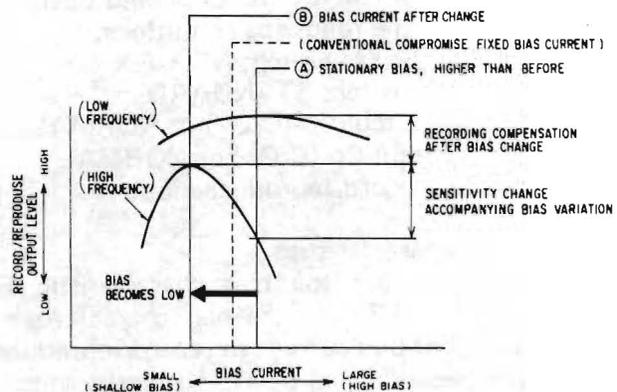
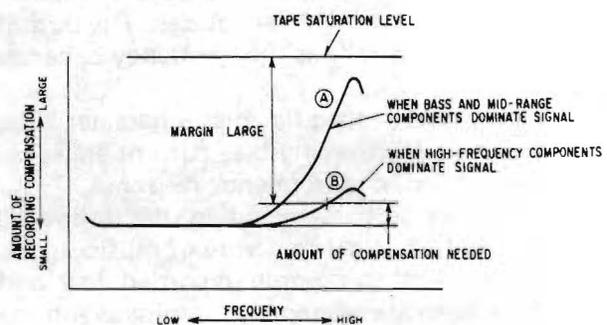

Fig. 3-36 Tape bias characteristic (2)
Fig. 3-37 Recording equalization characteristic (2)
- When bass and mid-range components dominate in the input signal or the overall level of the input signal is low, a fixed high bias is applied. (See **A** in Fig. 3-36.) In this case, frequency response at low frequencies can be improved by selecting a bias more suitable for lower frequency content than the conventional fixed bias.
- When the input signal involves high-level, high-frequency components, bias is decreased instantly depending on the frequency components and level, increasing the sensitivity at high frequencies. (See **B** in Fig. 3-36.)
- When bass and mid-range components dominate the input signal and bias is selected as **A** in Fig. 3-36, tape sensitivity is low at high frequencies and, therefore, the recording equalization is that of curve **A** shown in Fig. 3-37. With curve **A**, the amount of boost at high frequencies is very large but the level of high-frequency components of the input signal is low. Therefore, distortion will not occur during recording.
- With high-level, high-frequency signals, bias is lowered. (See **B** in Fig. 3-36.) With lower bias, tape sensitivity increases at high frequencies and the amount of recording equalization may be reduced, as shown by curve **B** in Fig. 3-37.
c. Since the variable equalizer is basically a low-pass filter, reduction in turnover frequency results in increased attenuation at high frequencies. Because of this, the recording signal passing through the variable equalizer varies as curves **A** and **B** shown in Fig. 3-37.